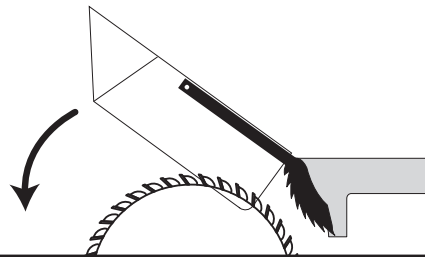

Figure 50. Typical ripping operation.
10. Use a push stick to feed the workpiece through the saw blade, as shown in **Figure 50**, until the workpiece is completely beyond the saw blade.